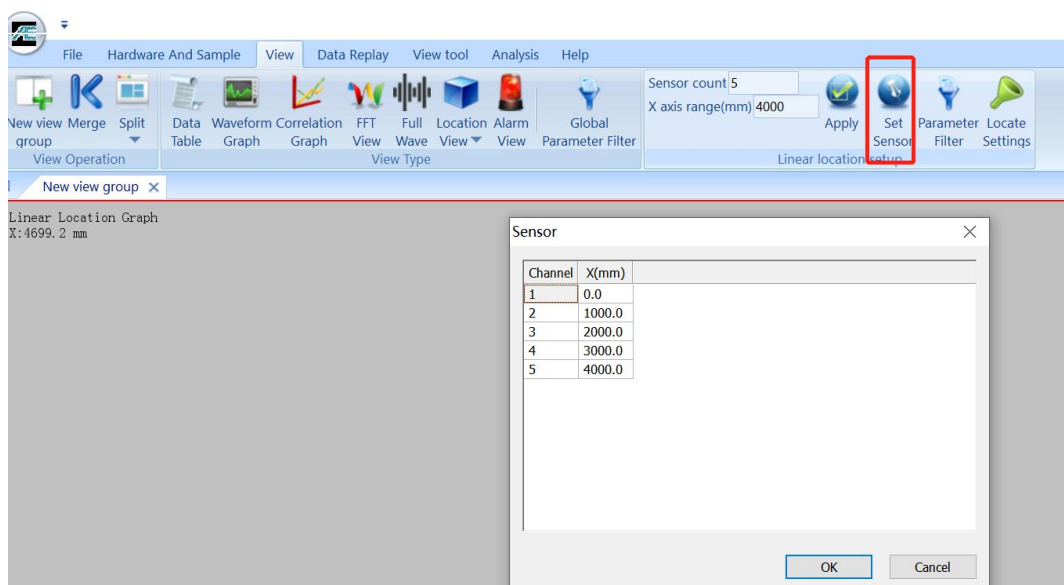

Fig. 6-59 Manual modification coordinate position
**Manual setting:** first, you need to know the distances between all sensors to Sensor#1. After the quick modification, click the **[Set Sensor]** button to pop up the dialog box as Fig. 6-59. The number under the "channel" column is the sensor number, which is generally consistent with the channel number to the AE host, or can also be changed to the user's desired number. Select the number under the channel directly for modification (note that the modified number should not be repeated with the existing number). The column "X(mm)" is the distance of each sensor away from sensor#1. Modify it according to the actual situation. After modification, click the **[OK]** button to update the view.